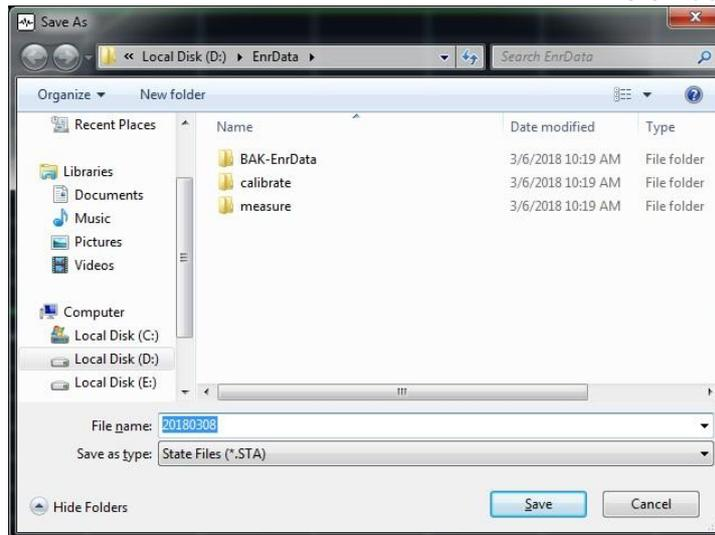

Fig. 3.18 File saving display
- Step 2.** Press the [Save...] menu key. "Save as" dialog box appears, as shown in Fig. 3.18.